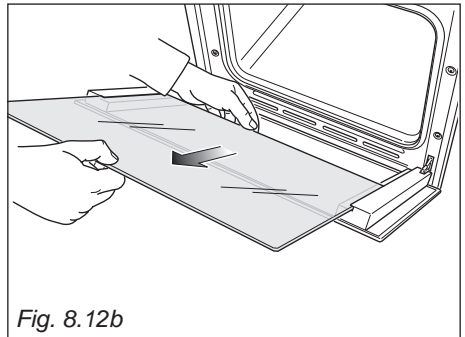

Fig. 8.12b
- Gently pull out the inner pane of glass (fig. 8.12b).